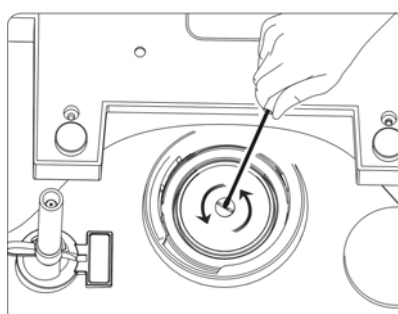

Fig. 13
- 18.8. Close the cover of the water tank (1), and then install the tank (1) and the drip tray (8) with its grid (7) back into the espresso machine (Fig. 13).
- 18.25. Close the cover of the water tank (1), and then install the tank (1) and the drip tray (8) with its grid (7) back into the espresso machine (Fig. 13).